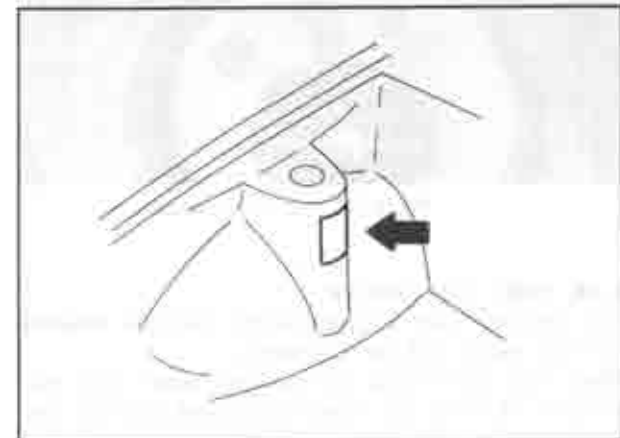

Fig. 4-37 Attaching label
4. Put the vehicle emission control information label for LOW ALTITUDE VEHICLE on the cleaned surface of the presently attached label. (See Fig. 4-37)